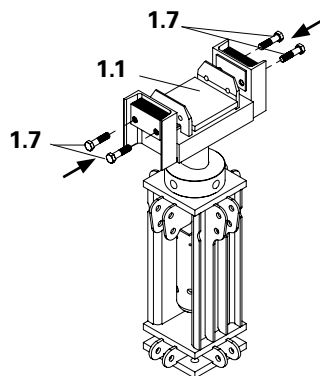

Fig. 33
5. Position spacer plates (same number respectively) on the two outer sides of the fork head (1.1). Secure spacer plates using four bolts. (Fig. 33)